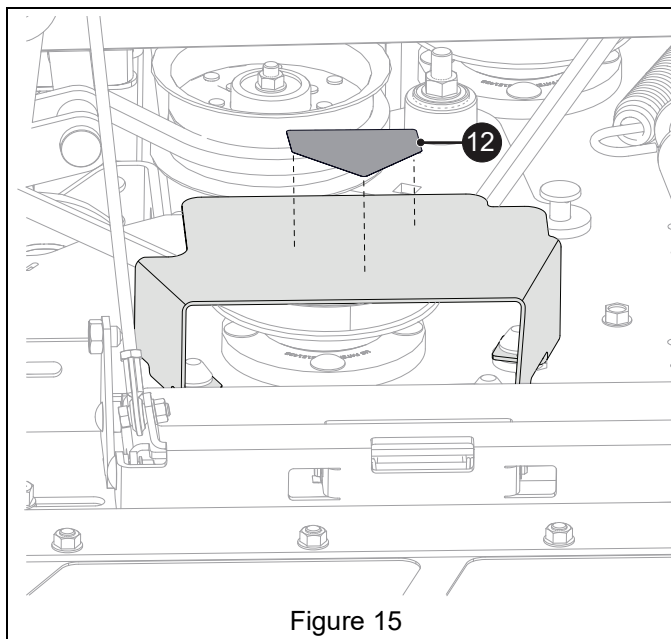

Figure 15
13. Thoroughly clean deck surface and install safety decal on deck. See Figure 15.